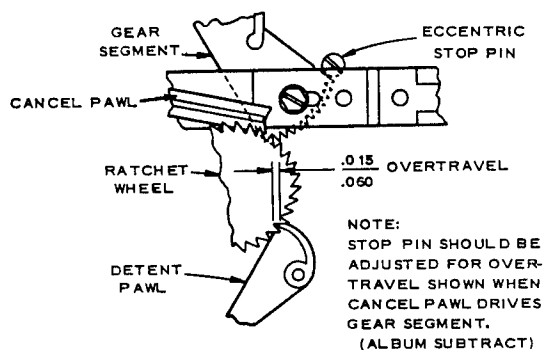

Figure 30. Album Subtract Adjustment.
4. Position of Album Relay Bracket must be such that when relay is energized, Cancel Pawl (Figure 30) is in position to pick up Gear Segment to cancel all credits.